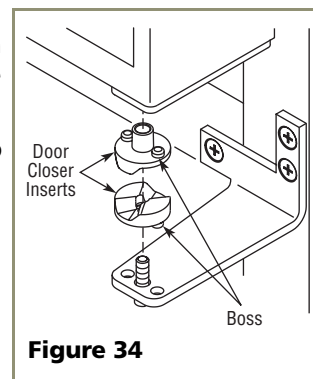

Figure 34
7. Reinstall the closers, lining up the bosses with holes in hinge and hinge plate (see **Figure 34**).